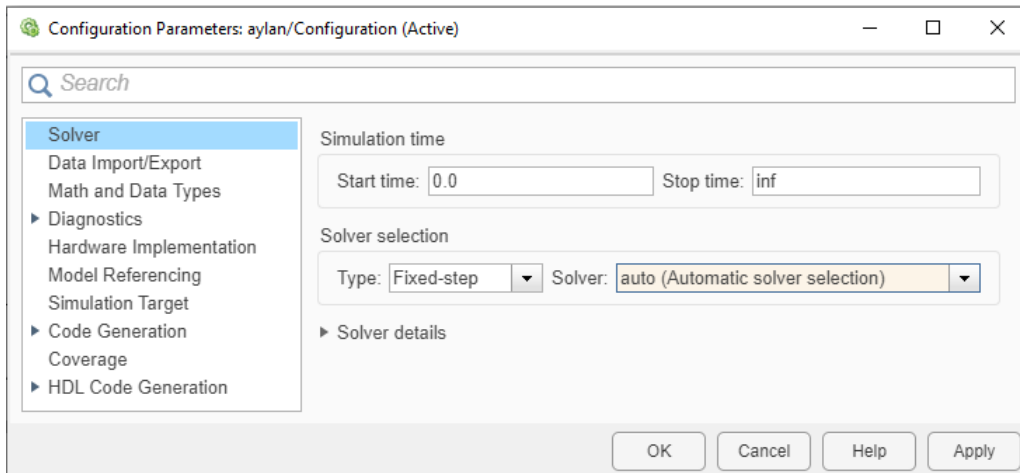

Figure 1.9: Configuration parameters window to setup the solver to Auto
4. Select the **HARDWARE | Configuration parameters** item to set the solver option to Auto as shown in Figure 1.9.